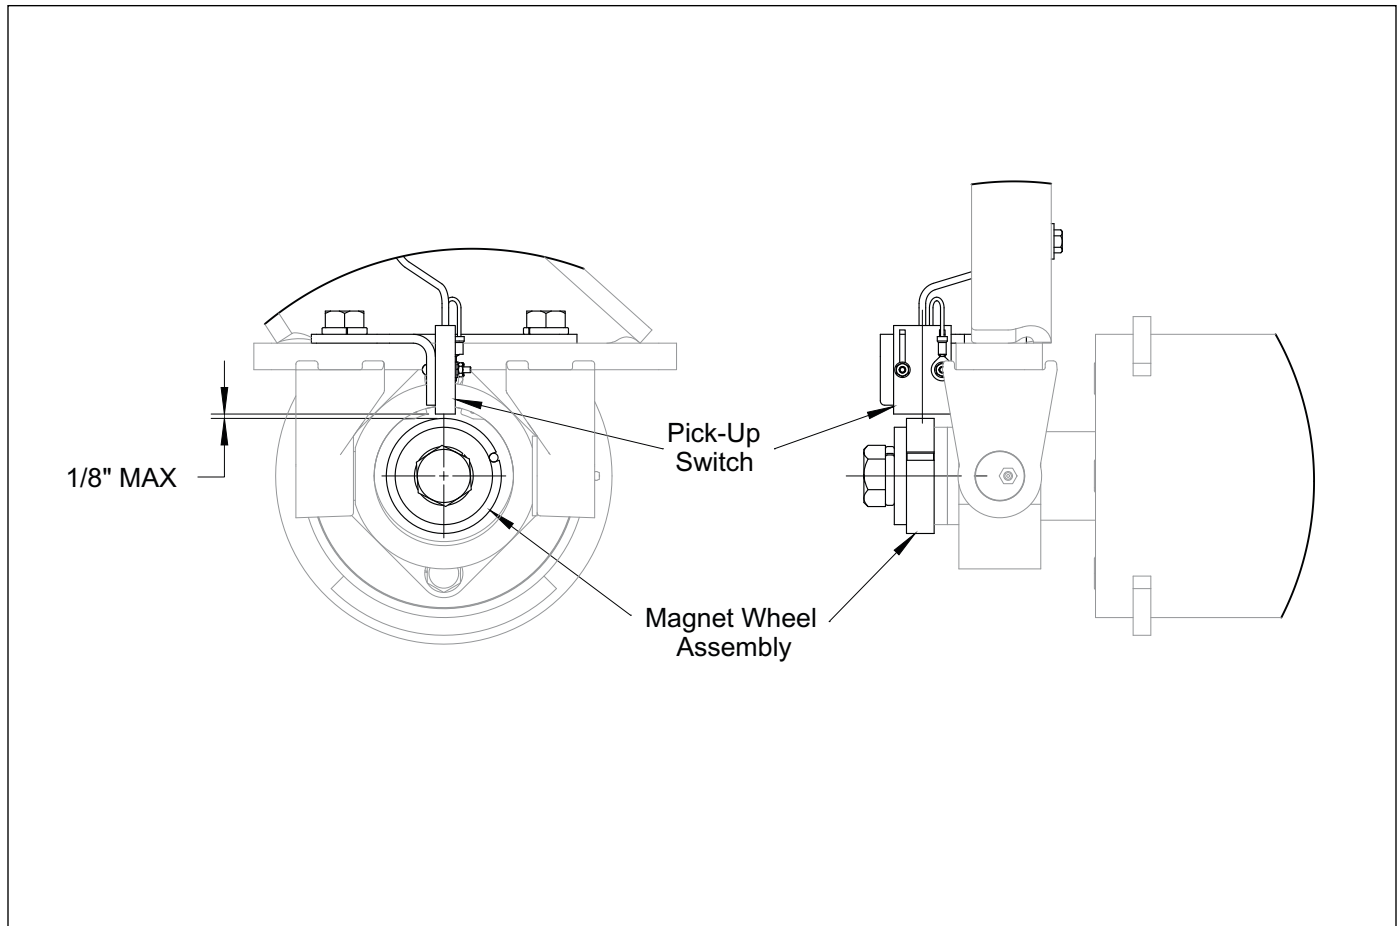

Figure 2-24: Pick-Up Switch Side View
5. Adjust the Acre Meter Switch so the center line of magnet wheel and pickup switch are horizontally and vertically aligned with a maximum 1/8" between magnet wheel and pickup switch. Now firmly tighten all screws. **See Figure 2-24.**